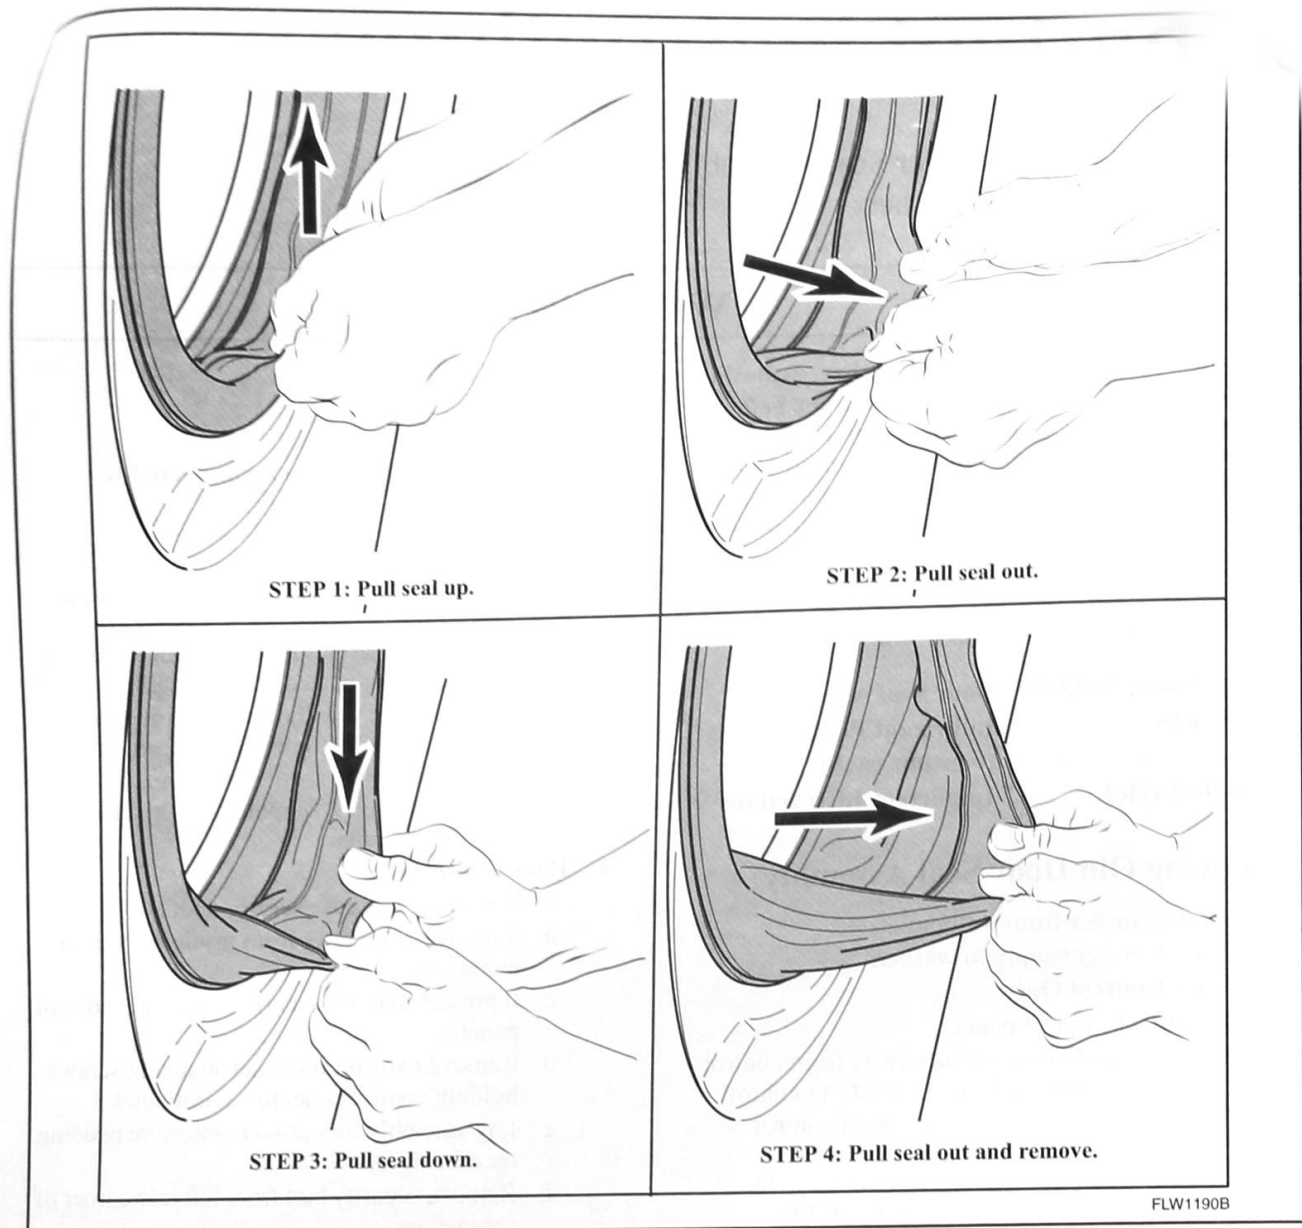

Figure 1
8. Pull lip seal up, out, and down using a circular motion. Refer to *Figure 1*. When seal releases from lip of front panel, pull out and remove seal from rest of front panel.